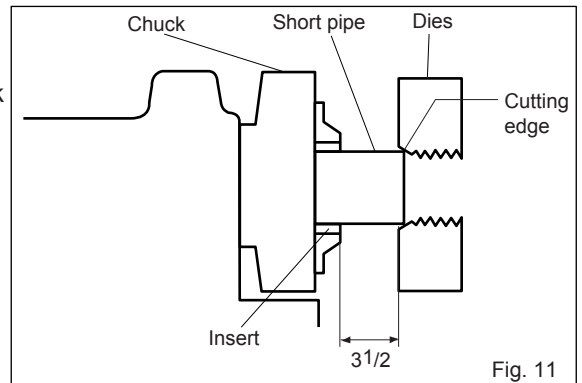

Fig. 11
- Lightly grip the pipe with the chuck, gently engage the dies with the end of the pipe to be threaded, and then tighten the hammer chuck again. (Fig. 11)
Note: Chuck the pipe with the pipe protruding at least 3 1/2 from the edge of the chuck jaw insert. (Fig. 11)